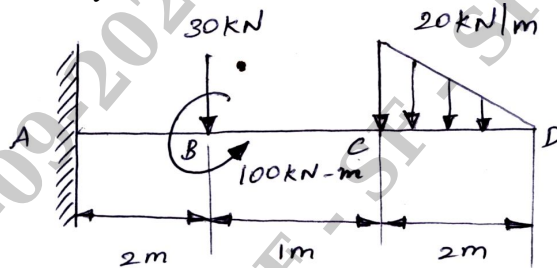

Fig.Q5
- 5 For the beam shown in the Fig.Q5, draw shear force and bending moment diagrams. Locate the point of contraflexure, if any.